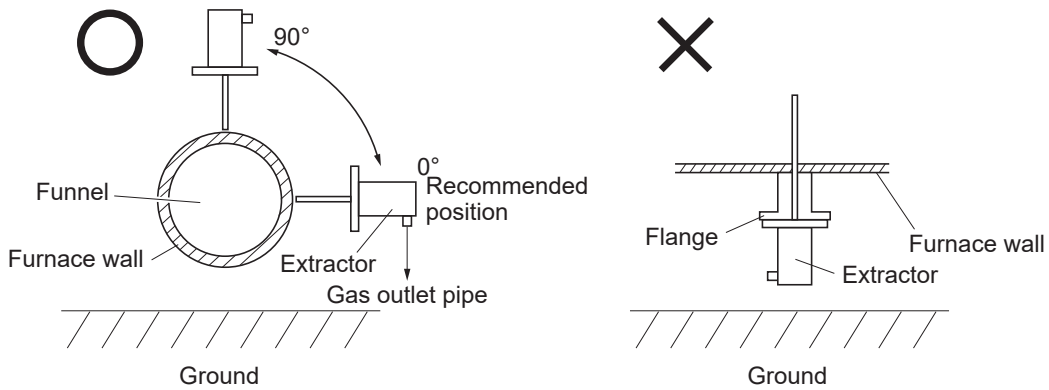

Fig. 5-2 Mounting angle
- (3) Mating flange that conforms to the limit of insertion angle of extractor should be prepared. Also, protective pipe and installation work should be completed.
- Limit of insertion angle (Fig. 5-2)
- ① For general use : 90 to 0° (Mount the gas outlet pipe facing downward.)
- ② For high temperature : 90° straight down (prevention of damage to ceramic pipe)